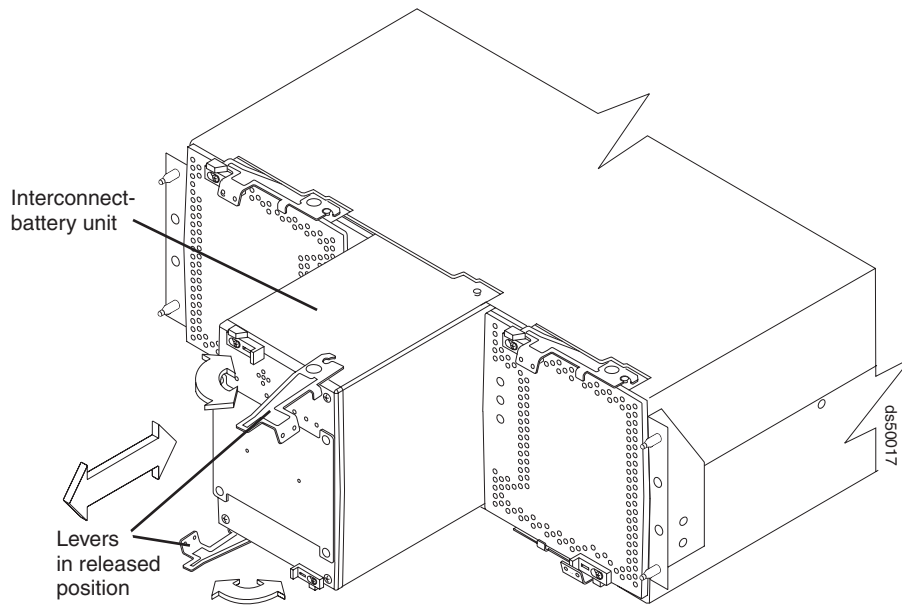

Figure 133. Removing an interconnect-battery unit from the DS5100 or DS5300
7. Unlatch both the top and bottom levers of the interconnect-battery unit and rotate both levers straight out simultaneously to remove the failed interconnect-battery unit. (Figure 133 on page 212 shows the interconnect-battery unit sliding from the storage subsystem chassis.)